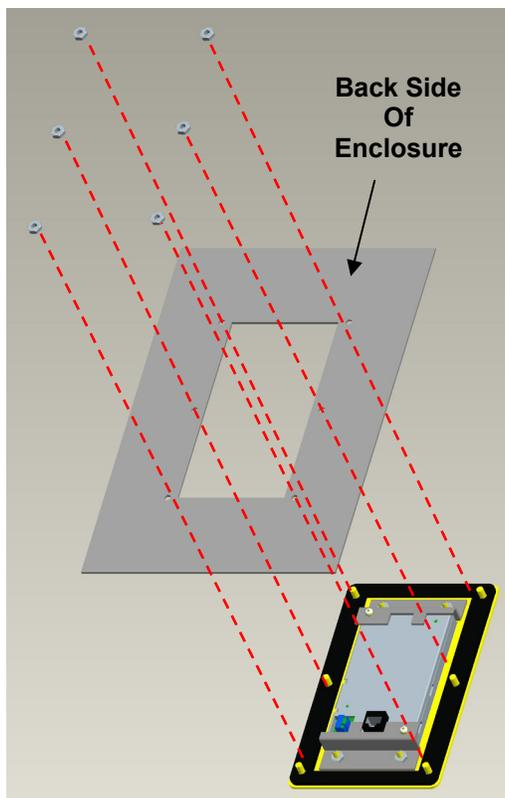

Figure 4 – Final Assembly
6. Complete installation by attaching the completed assembly to the end-use enclosure according to Figure 4 below. Use the provided #10-32 nuts and tighten to 30 lb-in. (3.39 N-m). Tighten the screws in a cross-like pattern to prevent damage to the threads and to assure proper sealing.